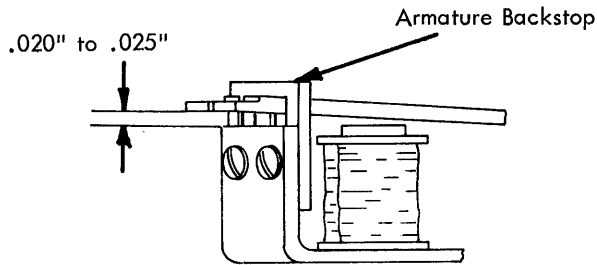

FIGURE 173.2 Armature Backstop
2. Armature Backstop (Late Style) (Fig. 173.2) -